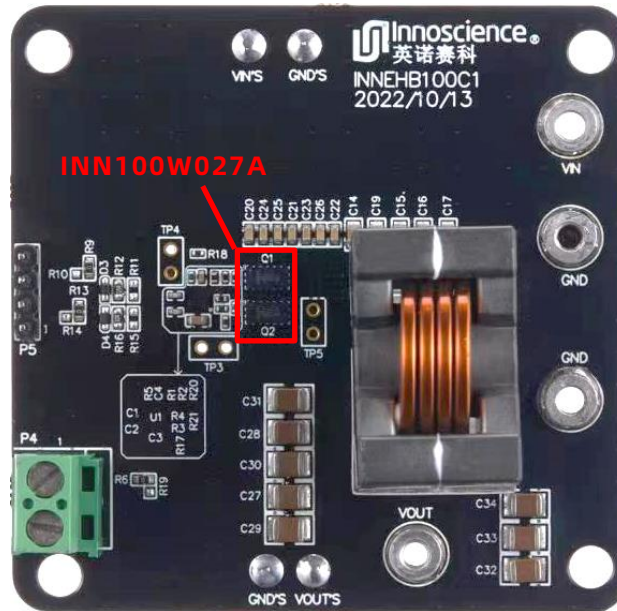

Figure 2 Top view of INNEHB100C1
The top and bottom views of the INNEHB100E1 board are shown in Figure 2 and Figure 3.
In Buck mode, the wiring diagrams of INNEHB100E1 with single PWM input and dual PWM input are shown in **Appendix Figure 2** and **Appendix Figure 3**, respectively.
Appendix Figure 2 Single-PWM input Buck mode
- 2) Connect the DC voltage source to terminal **V_{IN}** and common ground terminal **GND**, as shown in **Appendix Figure 2** (Pay attention to the polarity).